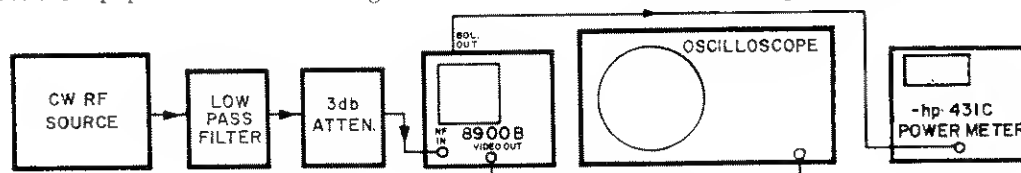

Figure 5-7. Meter Calibration Setup
- a. Connect the equipment as shown in Figure 5-7